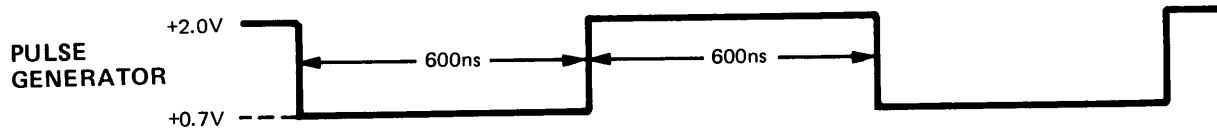

Figure 4-3. \overline{RD} , \overline{WR} , \overline{IORQ} Test Waveform.
- Adjust pulse generator for waveform shown in figure 4-3.